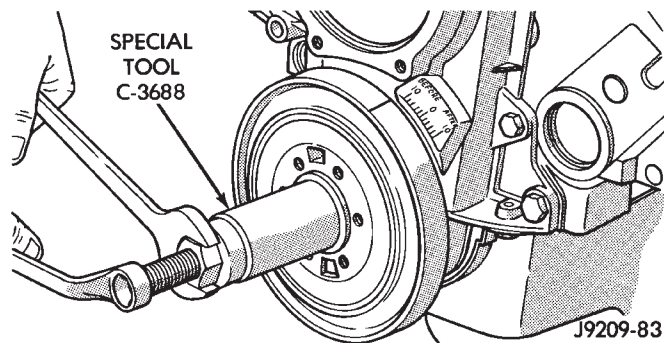

Fig. 25 Installing Vibration Damper
- (1) Position the vibration damper onto the crankshaft.
- (2) Place installing tool, part of Puller Tool Set C-3688, in position and press the vibration damper onto the crankshaft (Fig. 25).
- (3) Install the crankshaft bolt and washer. Tighten the bolt to 183 N·m (135 ft. lbs.) torque.